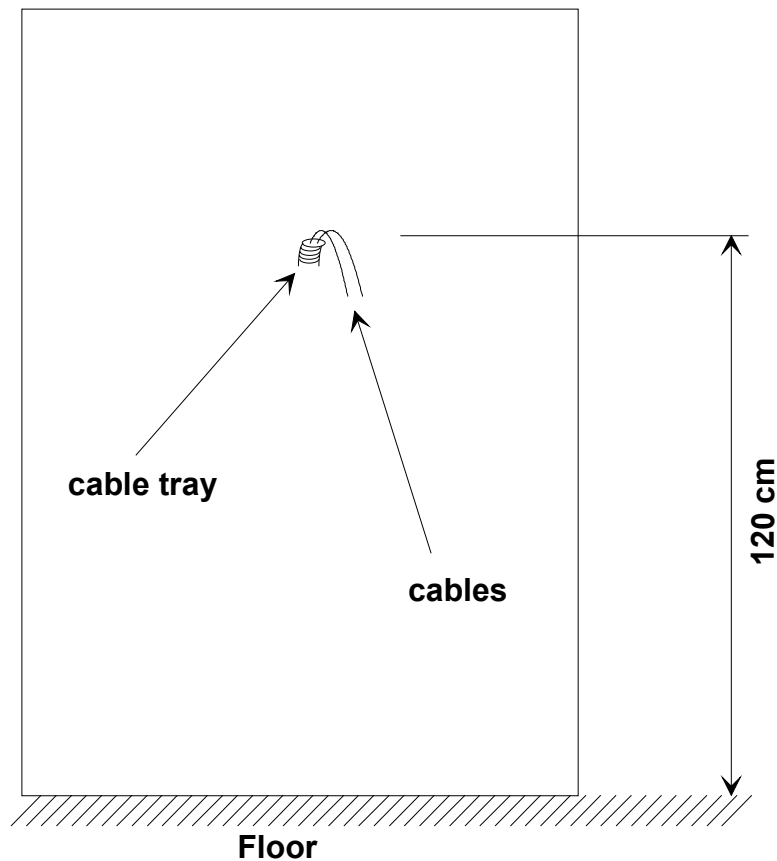

Figure 1: Wall Set Up for the Cable Trays
- 2) Come out at 120cm from ground (see Figure 1) (advised).